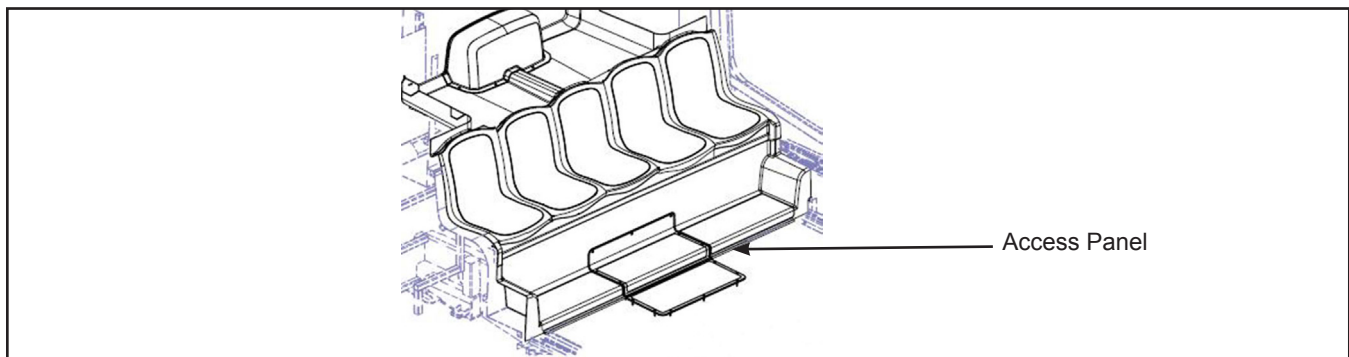

Figure 1 - Transmission Access Panel
- 1.3. Remove the transmission access panel. located inside the vehicle, at the rear. See Figure 1.